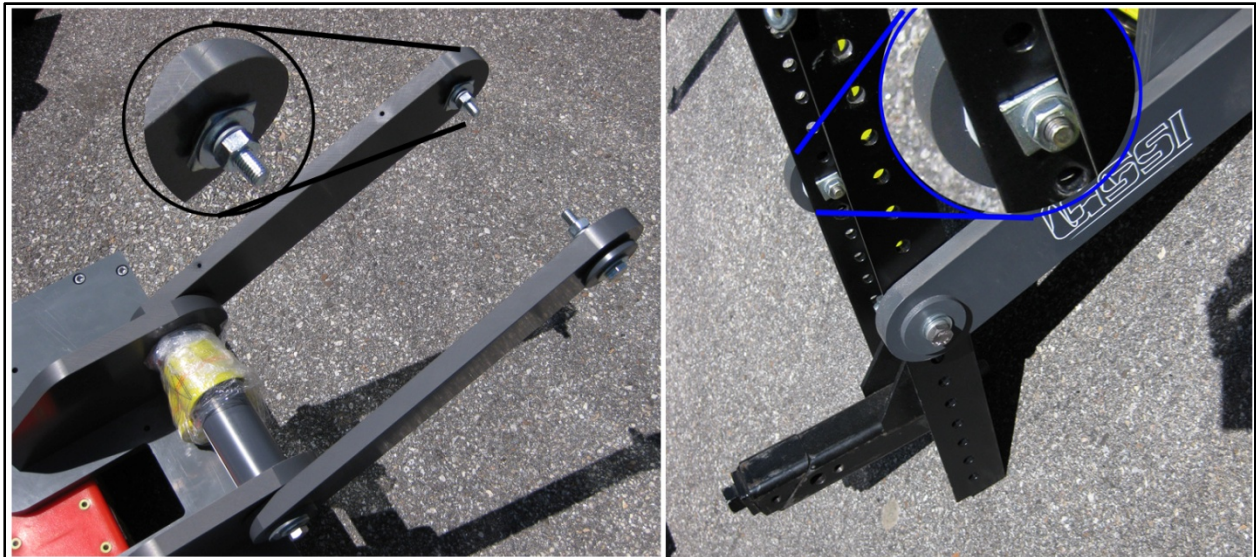

Figure 4: Attach antenna mount to hitch mount
- 3** Attach antenna mount assembly to metal hitch mount assembly (Figure 4). Make sure that the square wedge washers are positioned so as to counter the angle on the black metal hitch mount assembly. Select the holes that will result in the bottom of the mount being no more than three (3) inches above the road surface. Leave these bolts loose because you may need to make a final adjust for height.